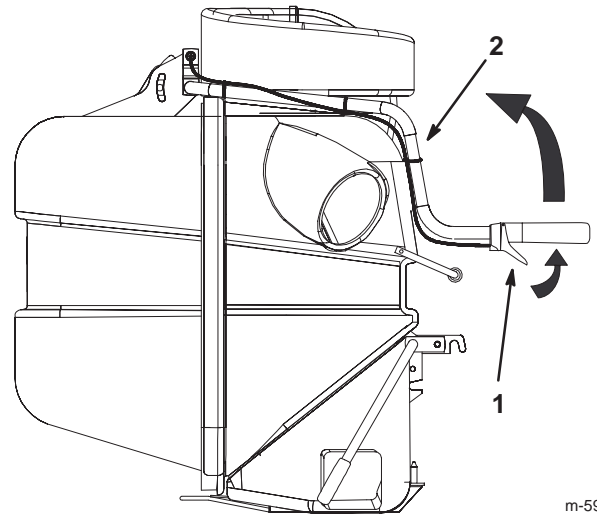

Figure 19
3. Squeeze the collector lever on the collector arm (Fig. 19).
4. Raise the collector arm to the highest position and release the collector lever (Fig. 19). The locking pin will drop into a hole in the highest position.
5. Pull the collector arm down to raise the back of the collector (Fig. 19).
6. Close the back of the collector and squeeze the collector lever (Fig. 19).
7. Lower the collector arm to the working position (Fig. 19).